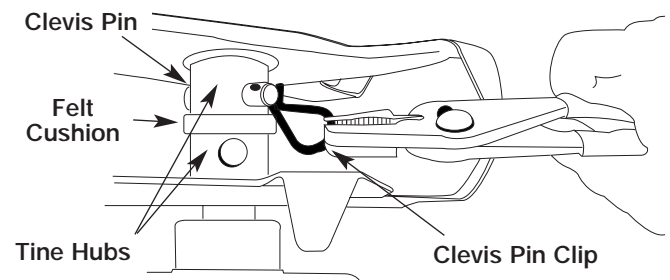

Figure 27
- Put the On/Off Stop Control in the STOP (O) position and disconnect the spark plug wire.
- Remove the clevis pin clips and clevis pins. See Figure 27.